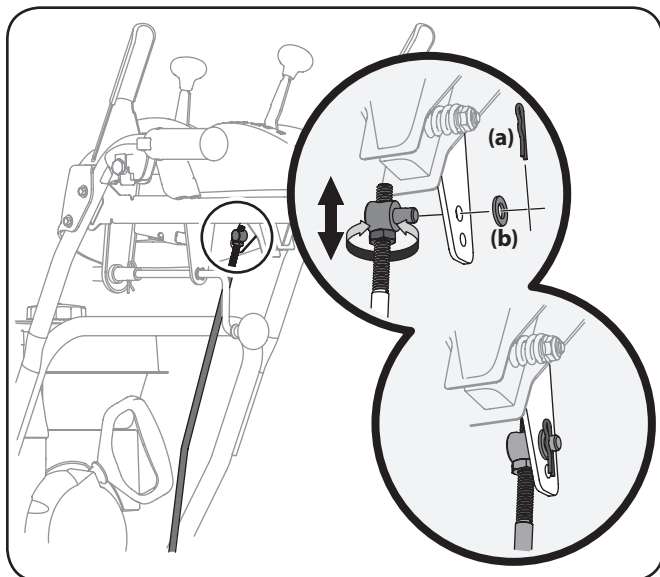

Figure 6-7
2. Remove the cotter pin (a) and washer (b) from the adjustment ferrule on the shift rod and pull it out from the shift lever. See Figure 6-7.
4. Rotate the ferrule up or down on the shift rod as necessary until the ferrule lines up with the upper hole in the shift lever. Refer to Figure 6-7 inset.